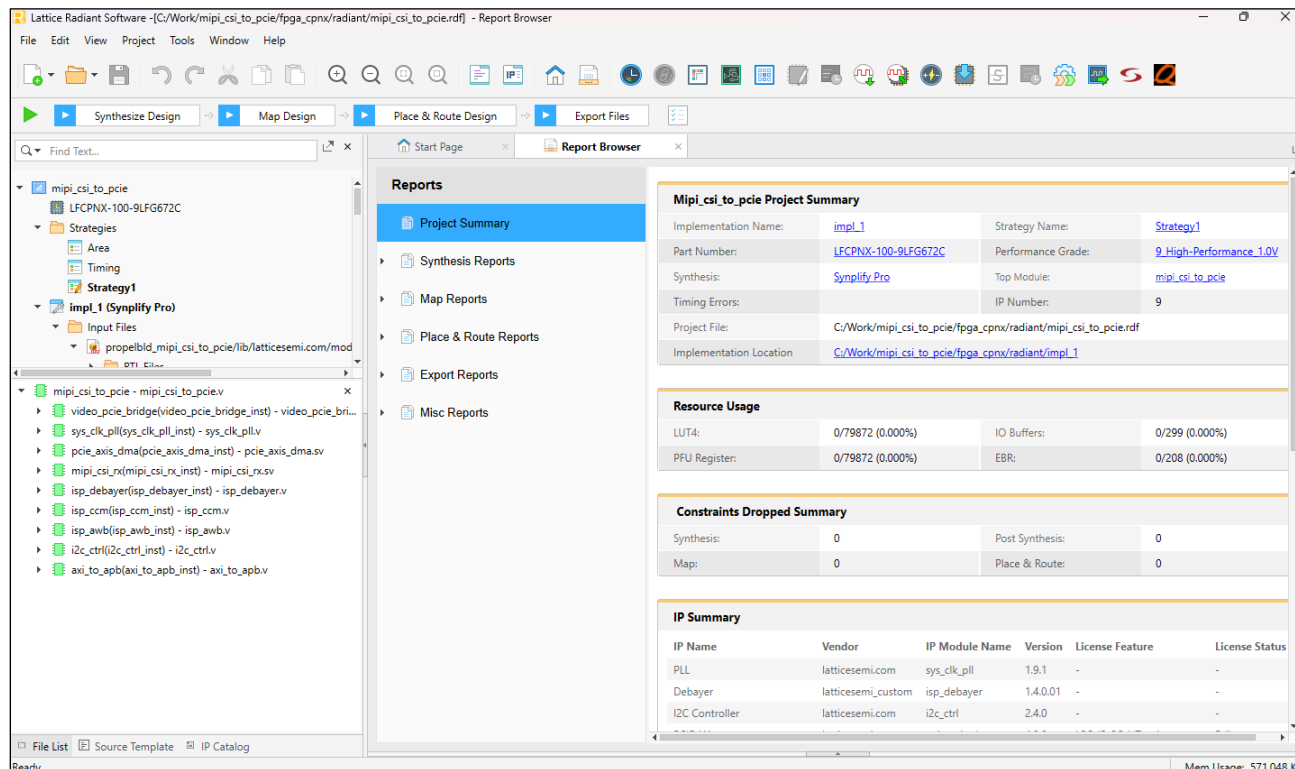

Figure 5.7. Lattice Radiant Window
- The Lattice Radiant software window of this project opens, as shown in Figure 5.7.